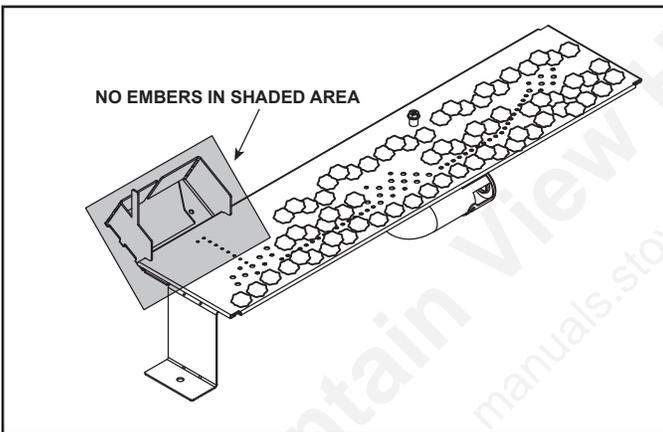

Figure 11.2 Placement of Embers
- Embers **CANNOT** be placed in pilot bracket area. See Figure 11.2. Care should be taken not to cover the lighting trail of ports (from back to front).
- When placing Glowing Embers® onto the burner care should be taken so that the ports are not covered. Place the dime-size ember pieces near the port holes in the burner top (see Figure 11.2). Failure to follow this procedure will likely cause lighting and sooting problems..